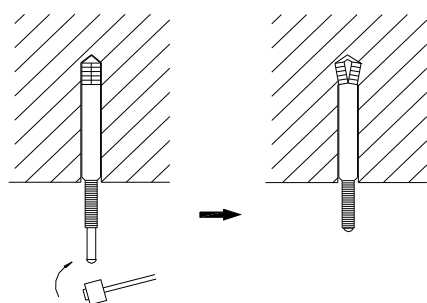

Figure 1-1-1
- 3) Insert a M10 expansion bolt into the hole. Drive a nail into the bolt. Refer to the profile dimensions drawing of the indoor unit for the distance between the holes. Refer to Figure 1 for the installation of the expansion bolt, as Figure 1-1-1 shows.